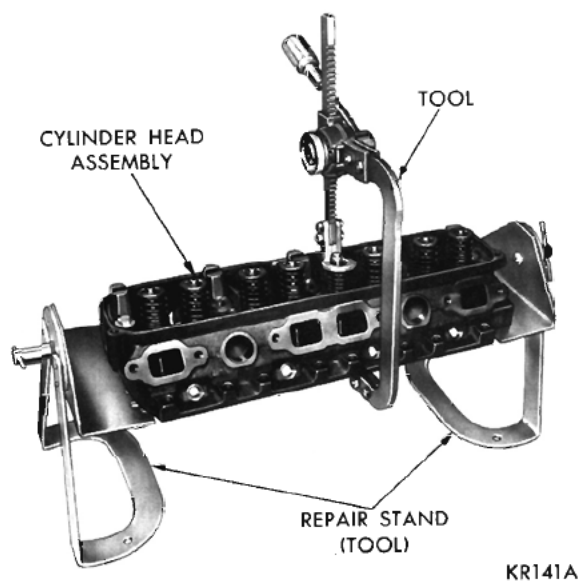

Fig. 72—Compressing Valve Spring Using Tool C-3422A (Typical)
(1) With the cylinder head removed, compress the valve springs, using Tool C-3422A, as shown in Figure 72.
(2) Remove the valve retaining locks, valve spring retainers, valve stem cup seals and valve springs.